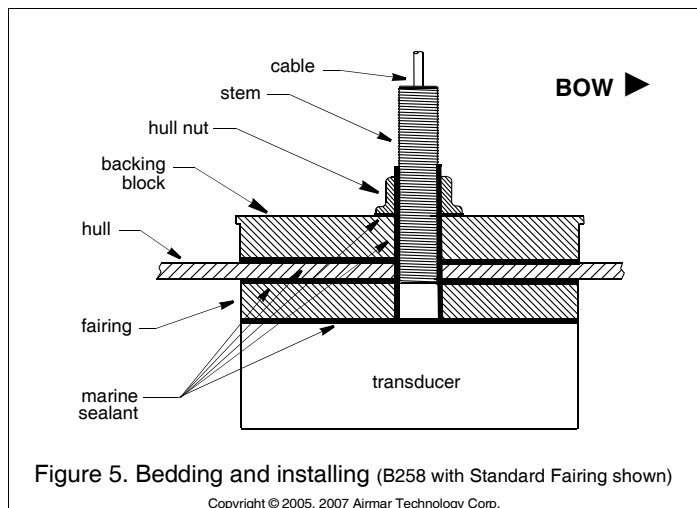

Figure 5. Bedding and installing (B258 with Standard Fairing shown)
1. Remove the hull nut (Figure 5).
4. Apply a 2mm (1/16") thick layer of marine sealant to the following surfaces (Figure 5):